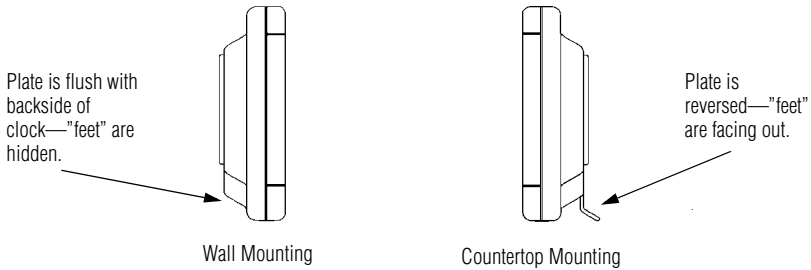

Figure 4: Serial Clock—Side View
3. Insure that the plate and the feet are facing in, towards the backside of the clock (See Figure 4: Serial Clock—Side View).
2. Turn the plate over so that the "feet" protrude out (away) from the backside of the clock (See Figure 4: Serial Clock—Side View). The plate can be adjusted up or down to obtain the desired viewing angle.